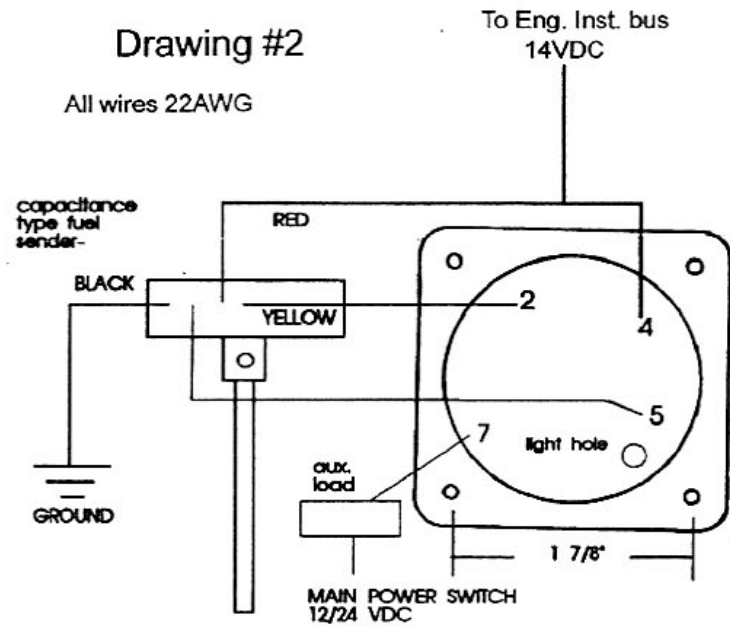

FIGURE 1
5. Electrical load analysis per preliminary load analysis, reference Figure 1. Ammeter marked and placarded for maximum load per AC 43.13-1B, Chapter 11, Section 3, para 11-36.